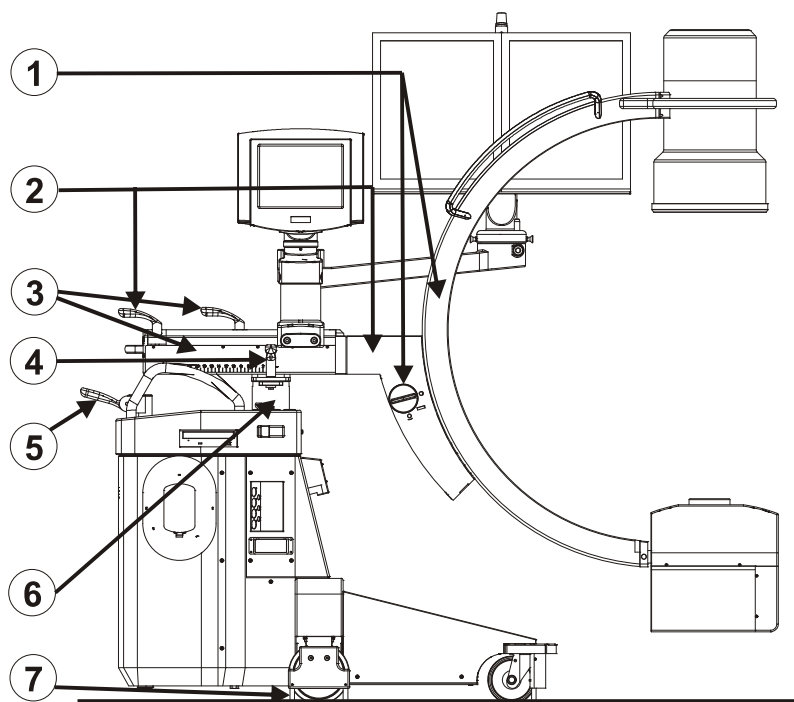

Fig. 26: Mobile stand transport position (Ziehm Solo)
13. Align the monitor head support arm exactly in parallel with the horizontal carriage (Fig. 26).
18. Release the parking brake by lifting the (green) steering & braking lever (Fig. 26).